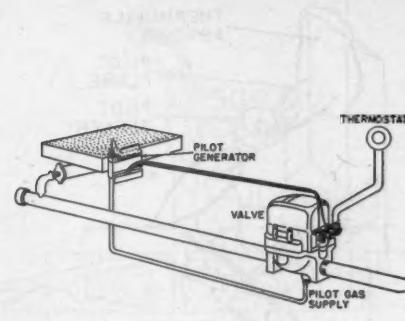

Fig. 3. The above system is formed by adding a suitable valve and a thermostat to the powerpile.
in Fig. 3. To protect against overheating, add a limit control. On LPG installations add a pilot safety valve for 100% safety shutoff of main burner and pilot burner.
As was explained in the preceding material, the powerpile supplies millivoltage current great enough to operate a complete control system. Fig. 3 shows a typical millivoltage installation.
3. The pilot flame must not impinge on the main burner, and only the directed flame from the pilot burner should play upon the "hot junction." In addition, the primary air ports of the powerpile (where present) should be in a zone that is relatively free from burned or unburned gases, and the leads from the thermopile must not pass over or through a section of the burner chamber where the temperature may damage the wires. Here is a "must" for every installation: *Be sure to re-install the main gas line pressure regulator if it becomes necessary to remove it when installing the gas valve or powerpile.* See Fig. 3 for typical installation.